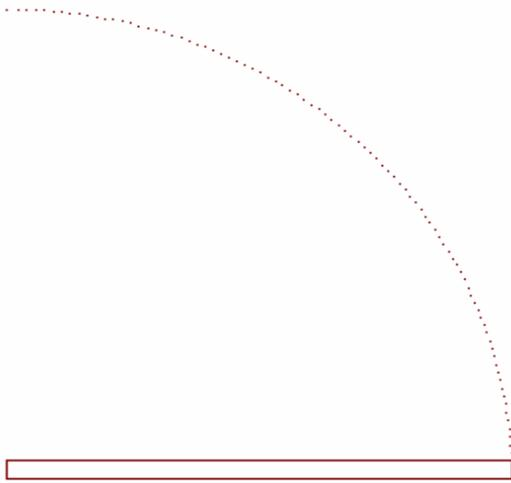

Fig. 6.1: 3'00'' x 0'1.5'' door
- Draw an arc and change its linetype as shown in the Figure.6.1 and save as door1.dwg file.